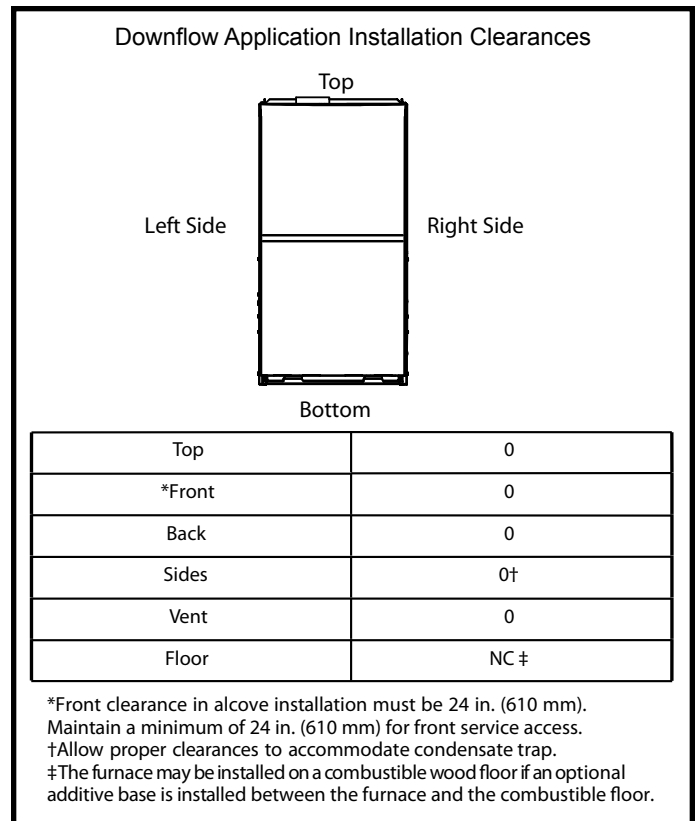

Figure 13
Allow for clearances to combustible materials as indicated on the unit nameplate. Minimum clearances for closet or alcove installations are shown in Figure 13.
**Refer to Figure 13 for clearances in downflow applications.**